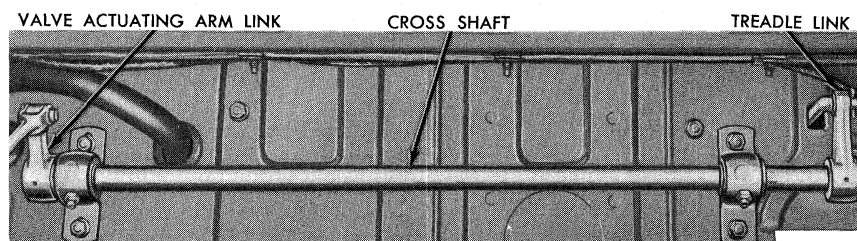
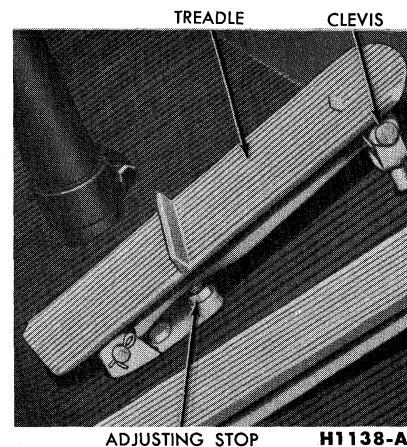

FIG. 9—Control Valve Linkage Cross Shaft—H-Series
FIG. 10—H-Series Treadle Stop Adjustment
by an actuating arm connected to a clevis rod which is, in turn, connected through a link to a cross shaft (Fig. 9). The treadle link on the opposite end of the cross shaft connects to a clevis rod that is fastened to the brake treadle in the cab (Fig. 10).
3. Mark the position of the slack adjuster on the camshaft, then remove the slack adjuster (Fig. 9).